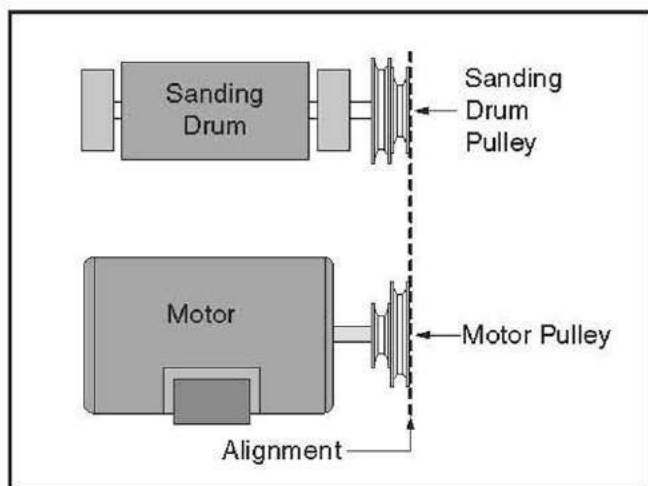

Figure 37. Proper pulley alignment for optimum power transmission.
3. Looking from top, sight down outside face of pulleys to see if pulleys are parallel and aligned with each other (see **Figure 37**).
6. Tighten the set screws, replace the V-belt, and repeat **Step 3** to verify proper pulley alignment. Pulleys should be parallel and aligned, as shown in **Figure 37**, when belt is properly tensioned.